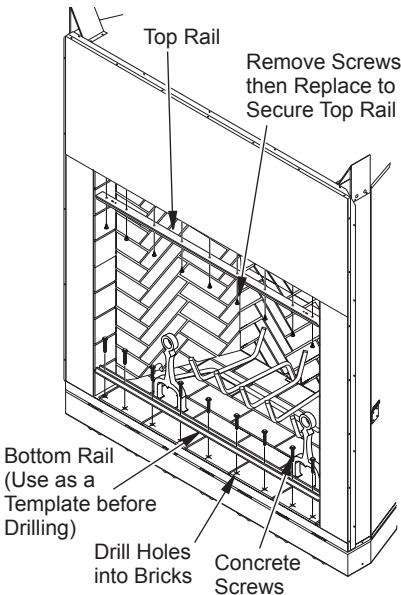

Figure 29 - Securing Door Rails to Fireplace
1. Remove screws securing top face to firebox (see Figure 29).
3. Using remaining door rail as a template, place along front row of bricks at bottom making sure rail front surface is flush with fireplace bottom face surface. Mark hole centers and remove rail (see Figure 29).